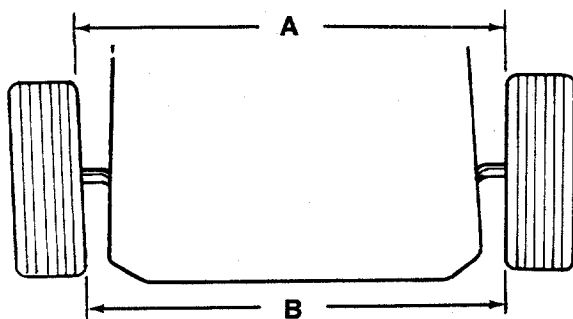

FIGURE 27.
2. Adjust the tie rod in or out until the wheels toe-in approximately 1/8". (Dimension "A" should be approximately 1/8" less than dimension "B". See figure 27.)